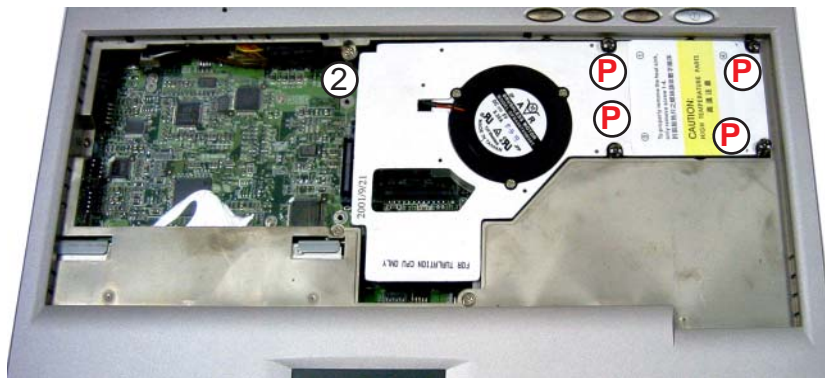

figure 2-8
1. Unscrew the 4 screws (P) securing the heat sink to the mainboard (figure 2-8).